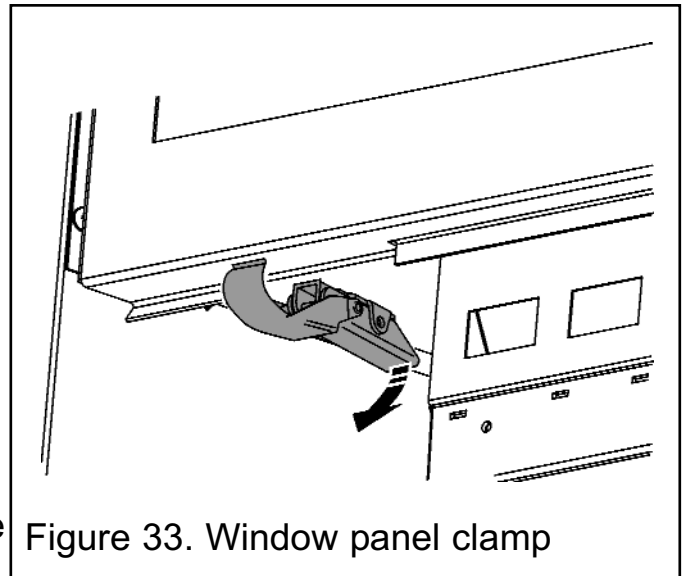

Figure 33. Window panel clamp
2. The window panel is secured at the bottom with two clamps. To release the clamps, hold at the rear and pull down (See figure 33).